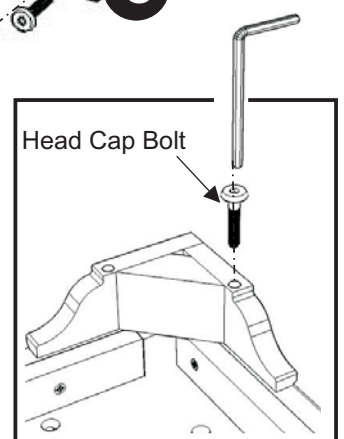

Figure 3
Attach Legs (O) to the unit with Head Cap Bolts (see Figure 3).